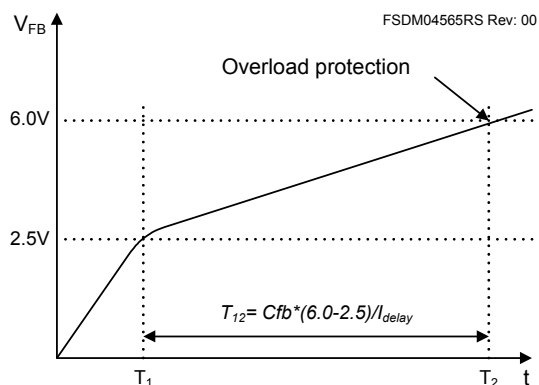

Figure 20. Overload protection
3.1 Overload Protection (OLP): Overload is defined as the load current exceeding a pre-set level due to an unexpected event. In this situation, the protection circuit should be activated to protect the SMPS. However, even when the SMPS is in the normal operation, the overload protection circuit can be activated during the load transition. To avoid this undesired operation, the overload protection circuit is designed to be activated after a specified time to determine whether it is a transient situation or an overload situation. Because of the pulse-by-pulse current limit capability, the maximum peak current through the SenseFET is limited, and therefore the maximum input power is restricted with a given input voltage. If the output consumes beyond this maximum power, the output voltage (V_O) decreases below the set voltage. This reduces the current through the opto-coupler LED, which also reduces the opto-coupler transistor current, thus increasing the feedback voltage (V_{fb}). If V_{fb} exceeds 2.5V, D1 is blocked and the $3.5\mu\text{A}$ current source starts to charge C_B slowly up to V_{CC} . In this condition, V_{fb} continues increasing until it reaches 6V, when the switching operation is terminated as shown in Figure 20. The delay time for shutdown is the time required to charge C_B from 2.5V to 6.0V with $3.5\mu\text{A}$. In general, a 10 ~ 50 ms delay time is typical for most applications.